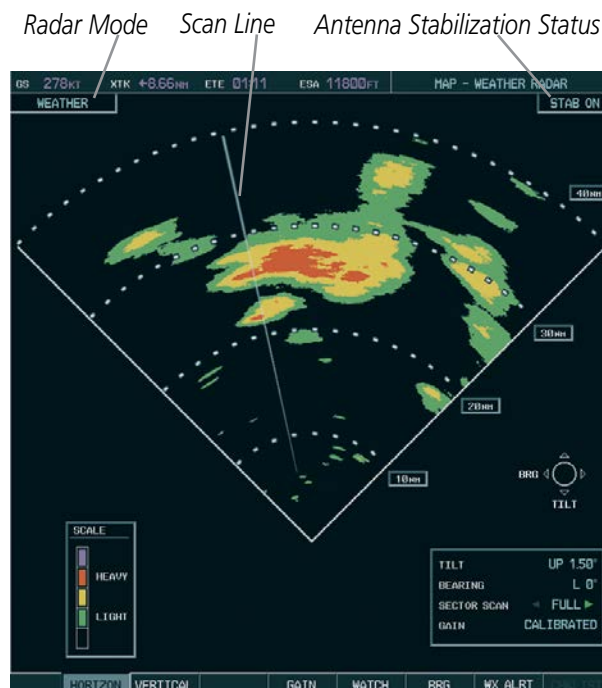

Figure 6-106 Horizontal Scan Display
- 5) The horizontal scan is initially displayed (Figure 6-106). If desired, select the **VERTICAL** Softkey to change to vertical scanning.